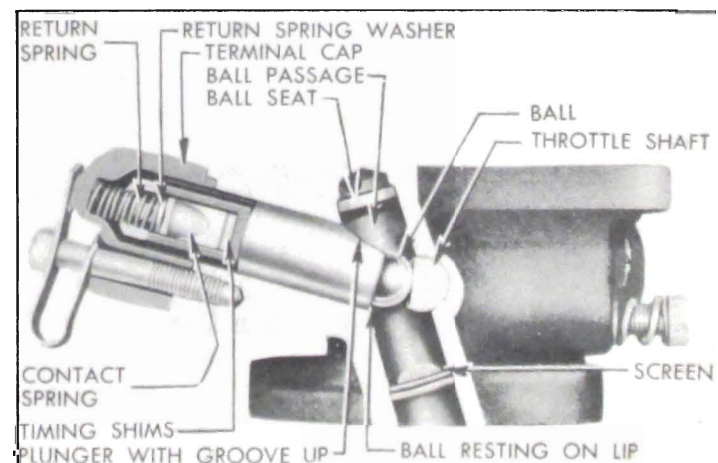
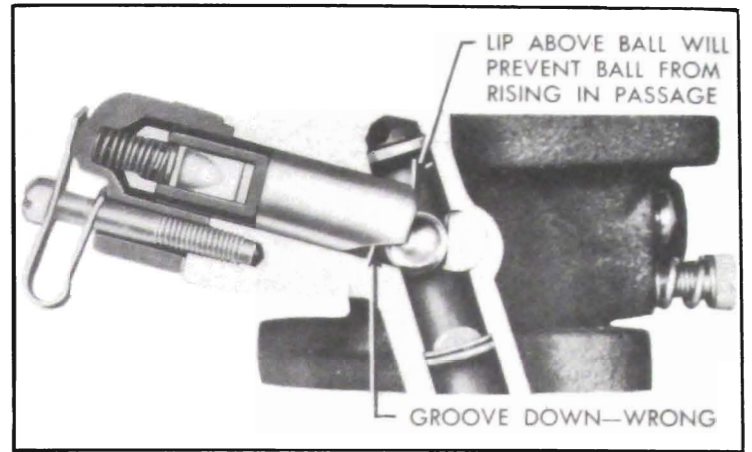

Figure 10-40—Carter Accelerator Vacuum Switch Correctly Assembled
Figure 10-41—Carter Accelerator Vacuum Switch Incorrectly Assembled
8. Place plunger in position with the groove up so that the ball rests on lip at inner end of plunger. See figure 10-40. If the plunger is installed with groove down, as shown in figure 10-41, the ball will be prevented from rising into the ball passage when the engine starts. As a result, the switch will close each time the throttle is opened, causing gear clash at low speeds when the generator is not producing sufficient voltage to open the solenoid relay. If generator should be inoperative, gear clashing would occur at all speeds.
9. Make sure that all timing washers, contact spring, and the return spring washer are in proper position before installing the return spring and terminal cap. Make sure that terminal cap is properly seated. See figure 10-40.